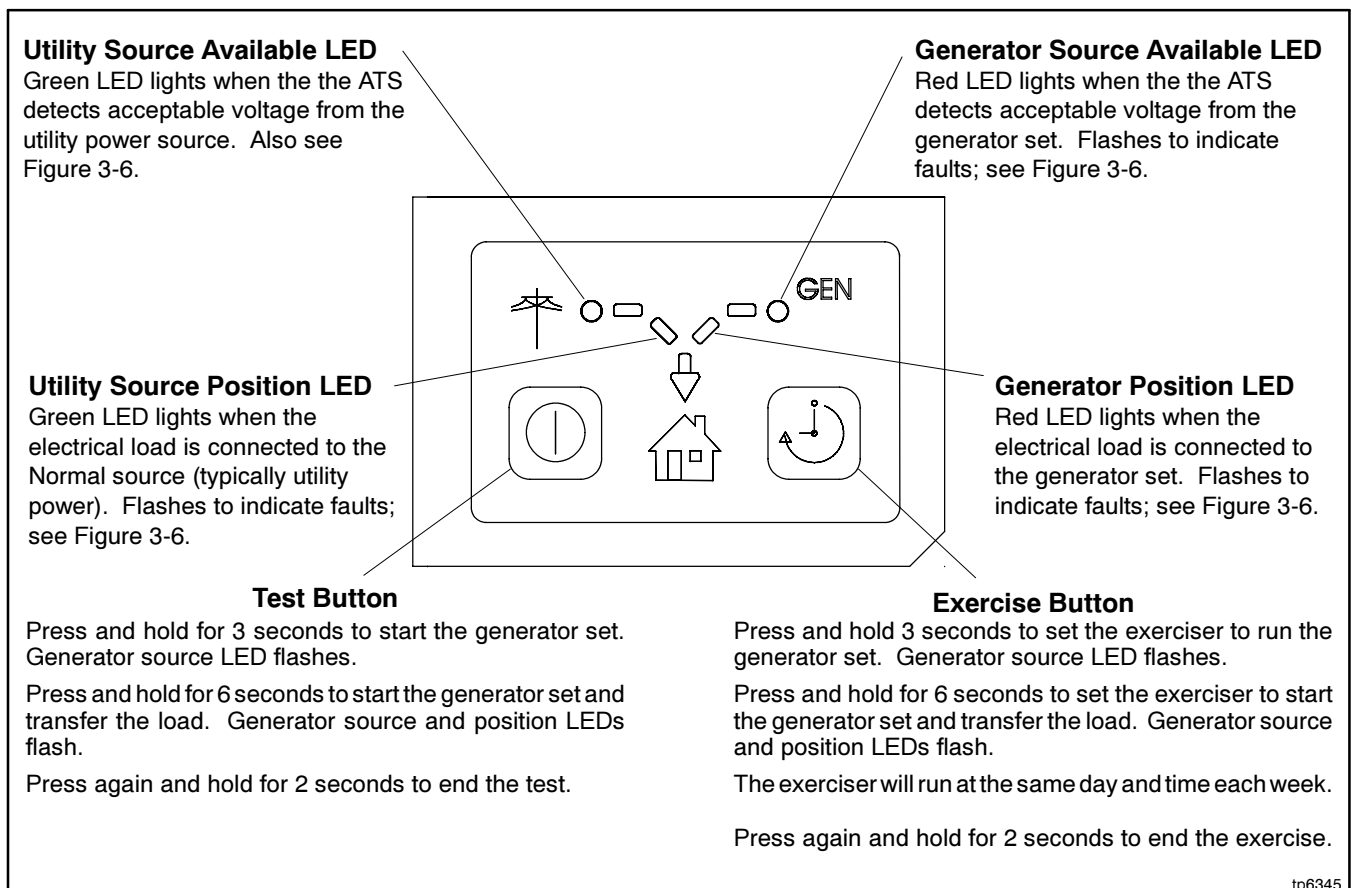

Figure 3-1 User Interface Panel
1. Check the controller LED indicators to verify that the Utility Source Available and Utility Source Position indicators are lit. See Figure 3-1.
Red and green LEDs on the transfer switch controls indicate which sources are available, show which source is connected to the load, and flash to indicate fault conditions. Pushbuttons allow you to start and stop the generator set and set the exercise timer. See Figure 3-1.
The controller's user interface panel is accessible through an opening in the transfer switch enclosure door. Figure 3-1 explains the operation of the controller pushbuttons and LED indicators.